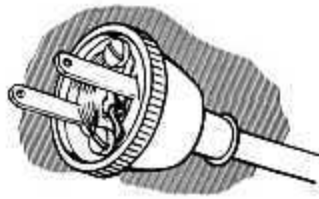

Figure 7
5. Plug connections fuzzy (Figure 7)